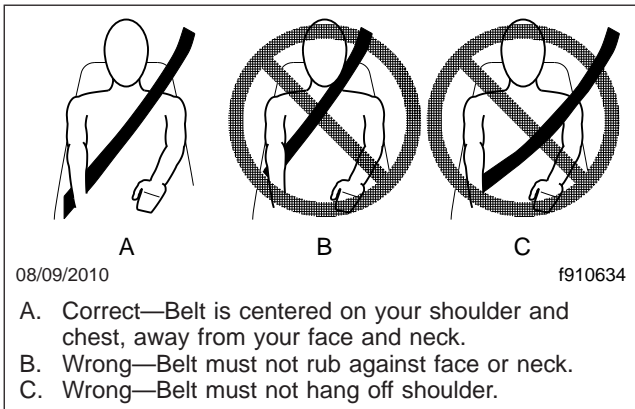

Fig. 5.8, Proper Shoulder Strap Fit
3. Position the shoulder strap diagonally across your chest with the adjustable D-loop bracket (if equipped). The shoulder strap must be centered on your shoulder and chest, away from your face and neck. See Fig. 5.8. If desired, engage the Komfort Latch as follows.
5. Position the shoulder strap diagonally across your chest with the adjustable D-loop bracket (if equipped). The shoulder strap must be centered on your shoulder and chest, away from your face and neck. See **Fig. 5.8**.